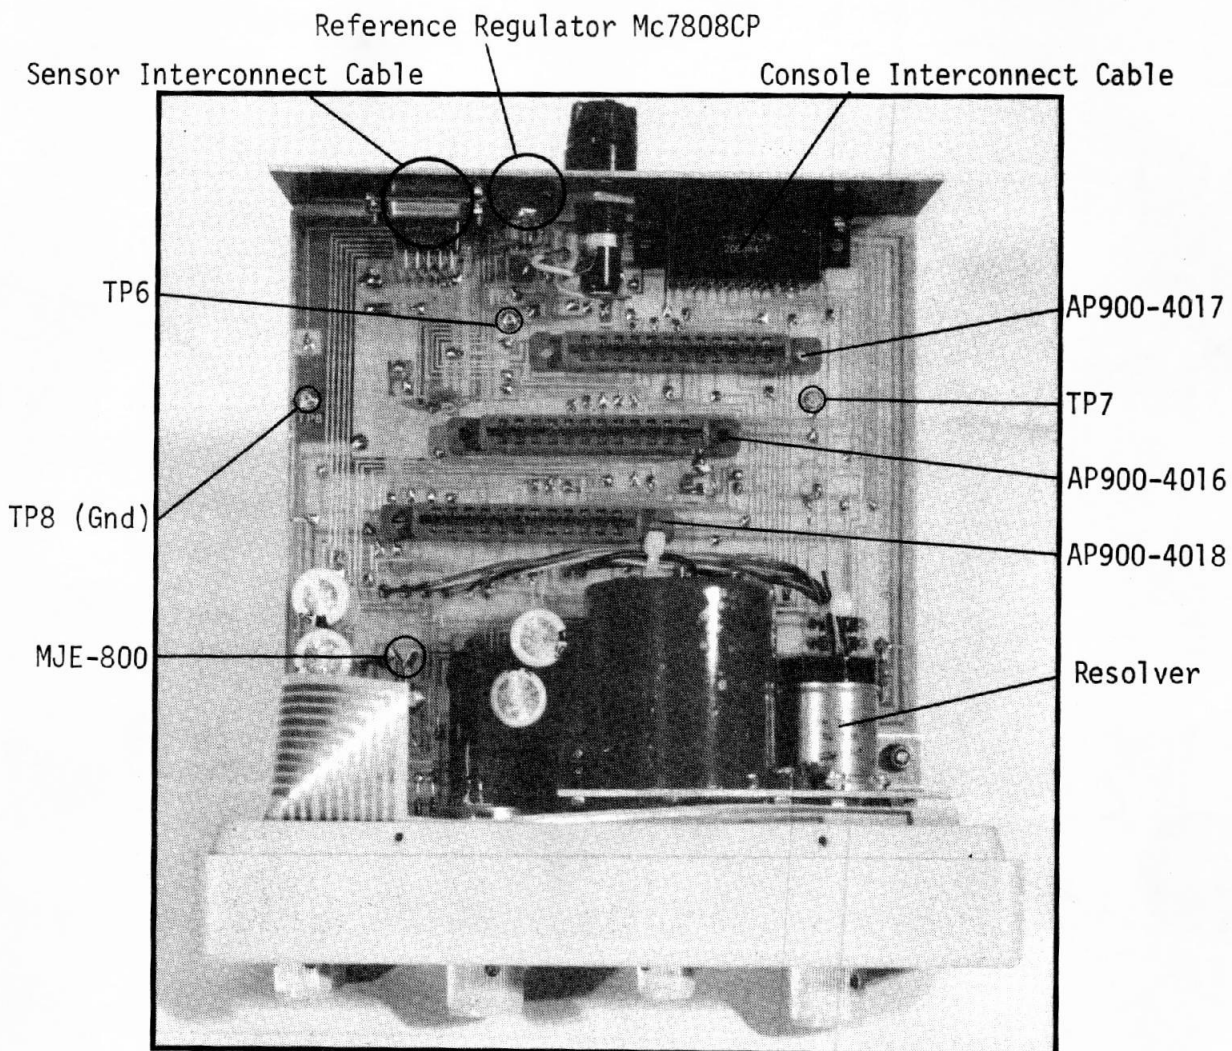
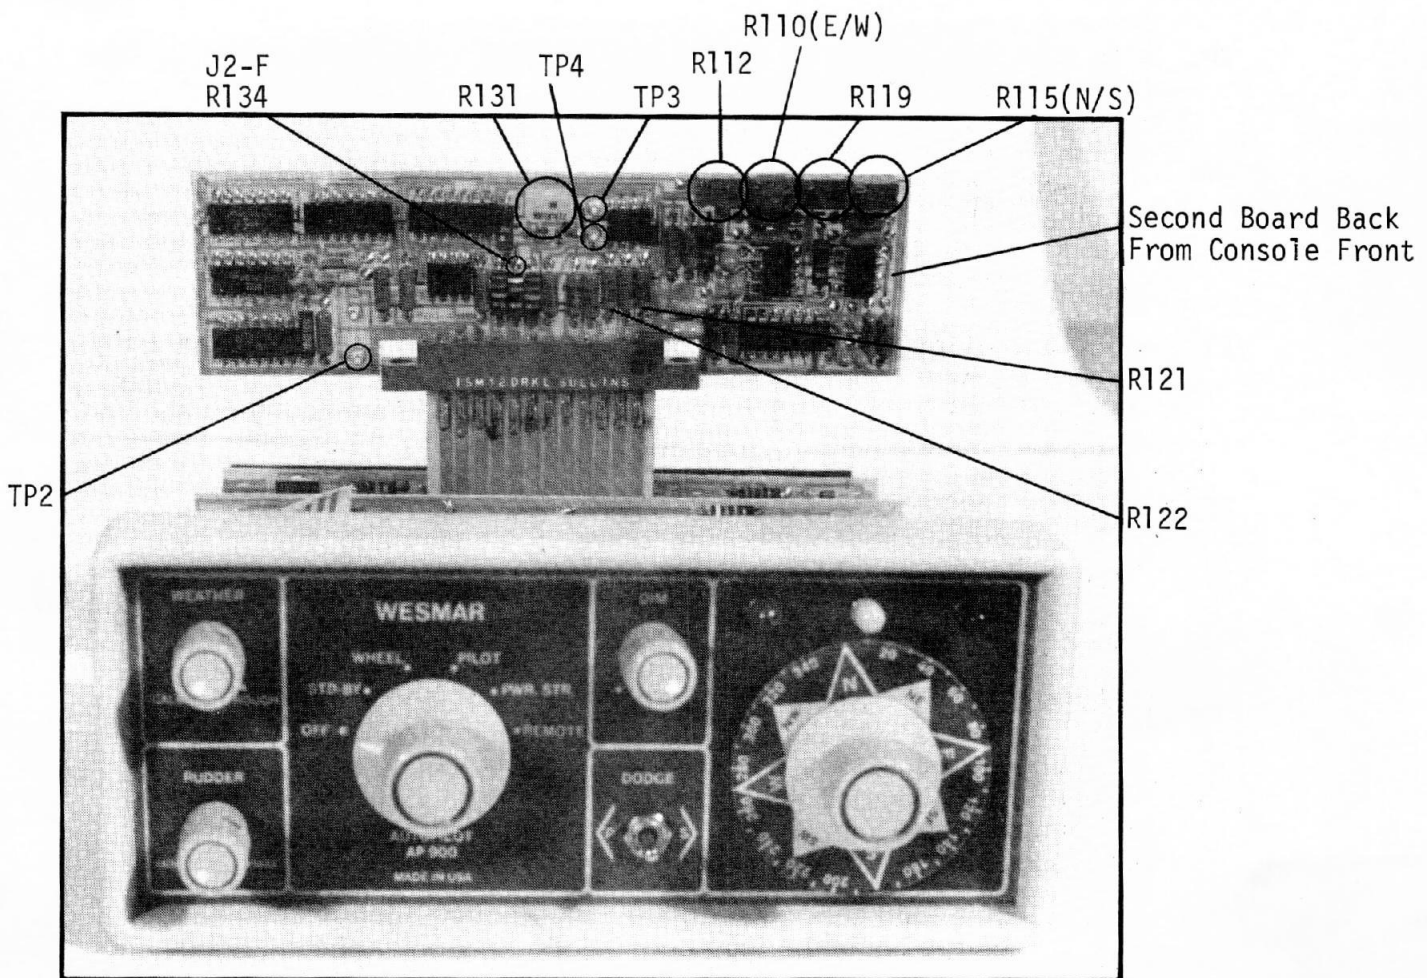

FIGURE 57. CONTROL CONSOLE MOTHER BOARD
FIGURE 62. AP900-4016 SENSE AMPLIFIER BOARD
5. Connect a voltmeter, black or ground lead to TP8 (GND). Attach the red lead (positive lead) to TP7 (+4.0VDC) on mother board. Refer to Figure 57 for test point locations.
24. To calibrate the Course Error Signal, connect a voltmeter, positive lead to J2-F on the AP900-4016 amplifier board, Figure 62, page 51. Connect the negative lead (black) to TP7 (4.0 VDC) on the mother board. Set voltmeter to 1 volt range. Turn the FUNCTION switch to WHEEL mode. Rotate COURSE SET DIAL until a zero (0 VDC) reading is on the meter. At this point the yellow function light should be lit. Note the exact course on the dial, and then rotate COURSE SET DIAL exactly 10 degrees. The meter reading should change approximately 500mv, or 50mv per degree of course error. If the voltage is not between 500mv and 575mv, adjust R131, Figure 62, page 51, until the correct voltage is read.
2. Remove the AP900 Control Console from its enclosure, leaving both the Sensor cable and Matrix cable connected. Slide the panel forward to expose the AP900-4016 circuit board. Refer to Figure 62, page 51.
4. Attach the ground lead of a voltmeter to TP7 (Figure 57, page 46). Attach the positive lead to resistor junction R122 (Figure 62, page 51). Set the meter to .5 VDC range.
5. Turn the Console FUNCTION switch to WHEEL mode. Adjust R115 (Figure 62, page 51) on the AP900-4016 circuit board for a null or zero volts.
7. Connect the positive lead of the voltmeter to resistor junction R121 (shown in Figure 62, page 51).
16. Observing the dial, adjust R119 (Figure 62, page 51) until the COURSE SET DIAL reads exactly 45 degrees.